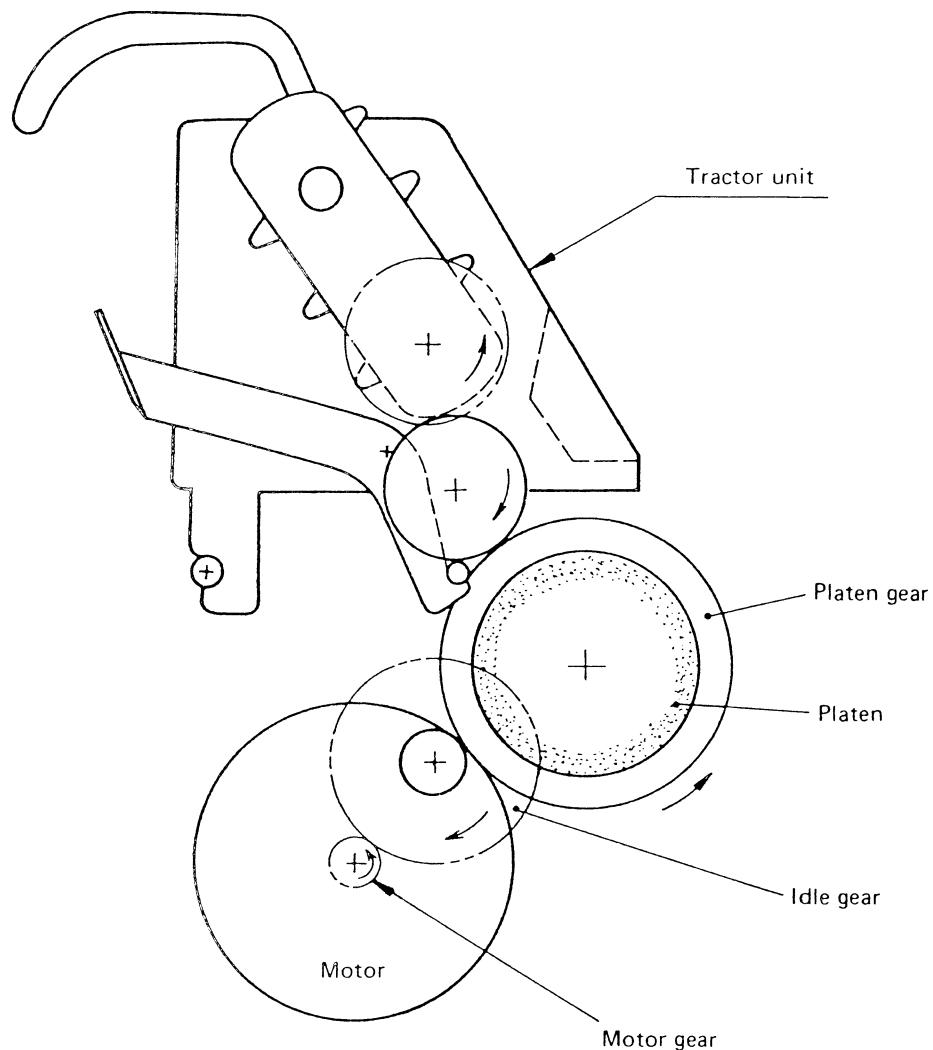

Fig. 5
##### (1) Paper feeding operation (see Fig. 5)